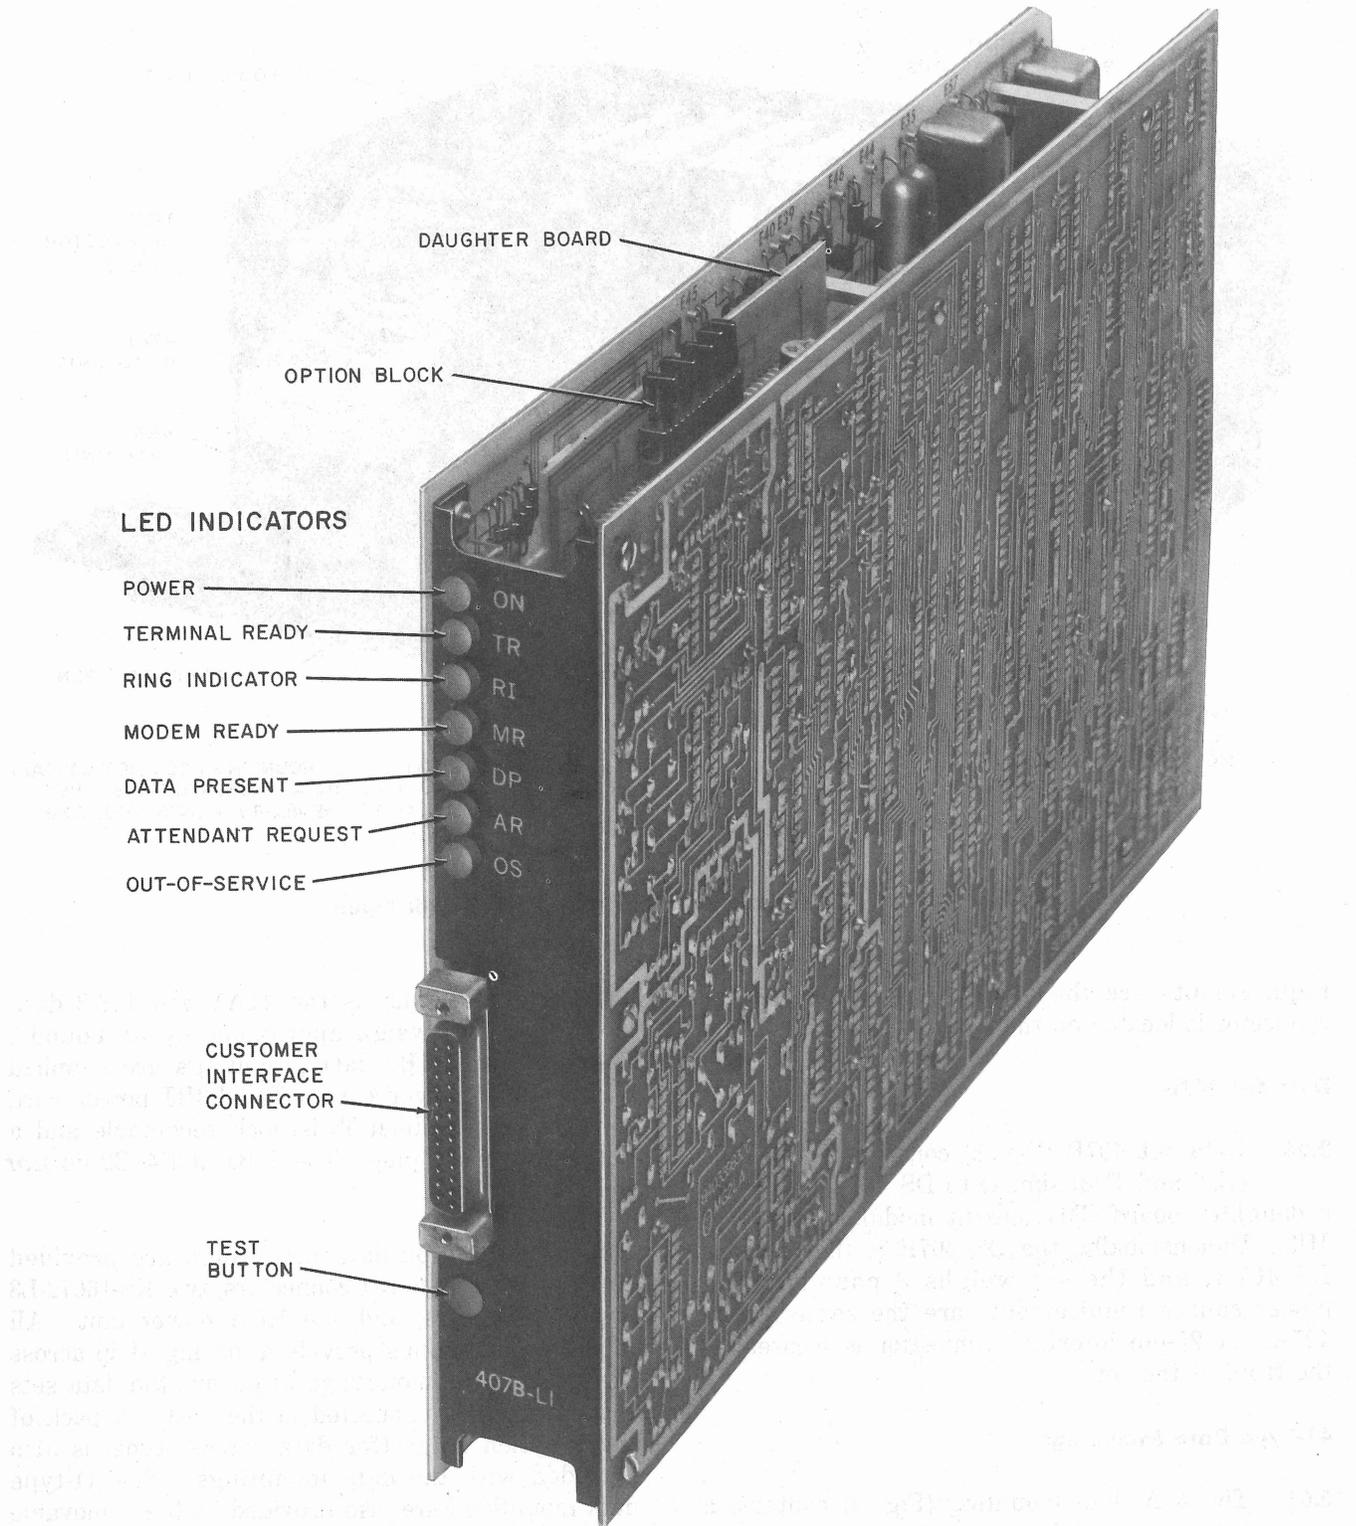

Fig. 3—Data Set 407B
**2.04** Data set 407B (Fig. 3) consists of two CPs (JU2 and JU3) similar to DS 407A-L1A, with a daughter board CM1 (circuit module) as part of JU3. Dimensionally, the DS 407B is the same as DS 407A, and the set weighs 3 pounds. The power source requirements are the same as DS 407A. A 25-pin interface connector is located on the front of the set.